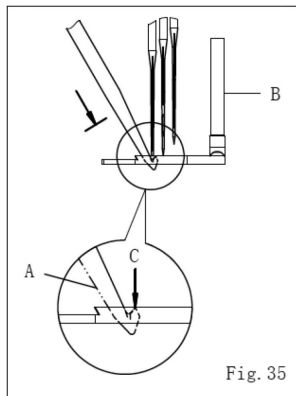
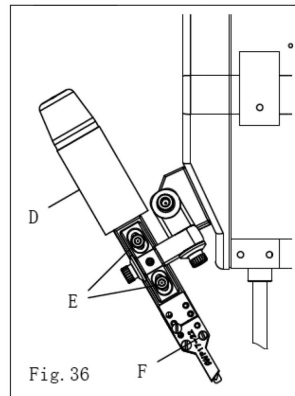

Fig. 35
Fig. 36
当活动刀片(A)移至最低点时活动刀之刀尖与上勾针(B)之上沿须切齐等高(C)。(图 35) 调整时放松上切刀组(D)上之两个螺丝(E),再上下移动上切刀组之位置。(图 36)
上切刀组之活动刀与固定刀压力可由螺丝(F)旋转微调至适当压力。(图 36)
When the Top Trimmer Moving Knife move to the lowest point, the tip (C) of Moving Knife align with top of Spreader (B). (Fig. 35)
To loose the two screws (E) of Top Trimmer (D) then, to adjust up and down for top trimmer position. (Fig. 36)
The pressure of Top Trimmer Moving & Fixing Knife which be adjusted via micro turn the screw (F) to get the suitable pressure. (Fig. 36)